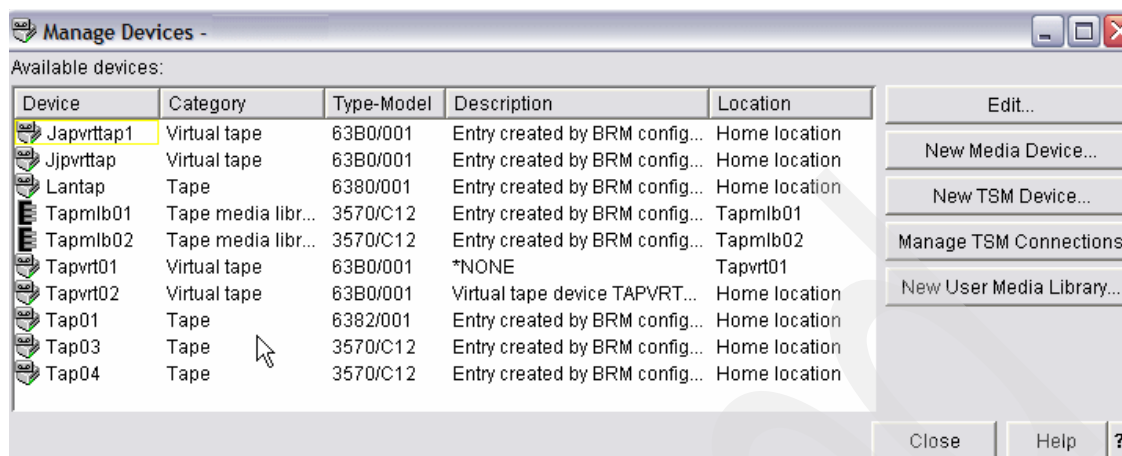

Figure 7-102 BRMS Backup policy, manage devices
2. Click **New Media Device** to add TAPVRT03, as shown in Figure 7-102 on page 429.